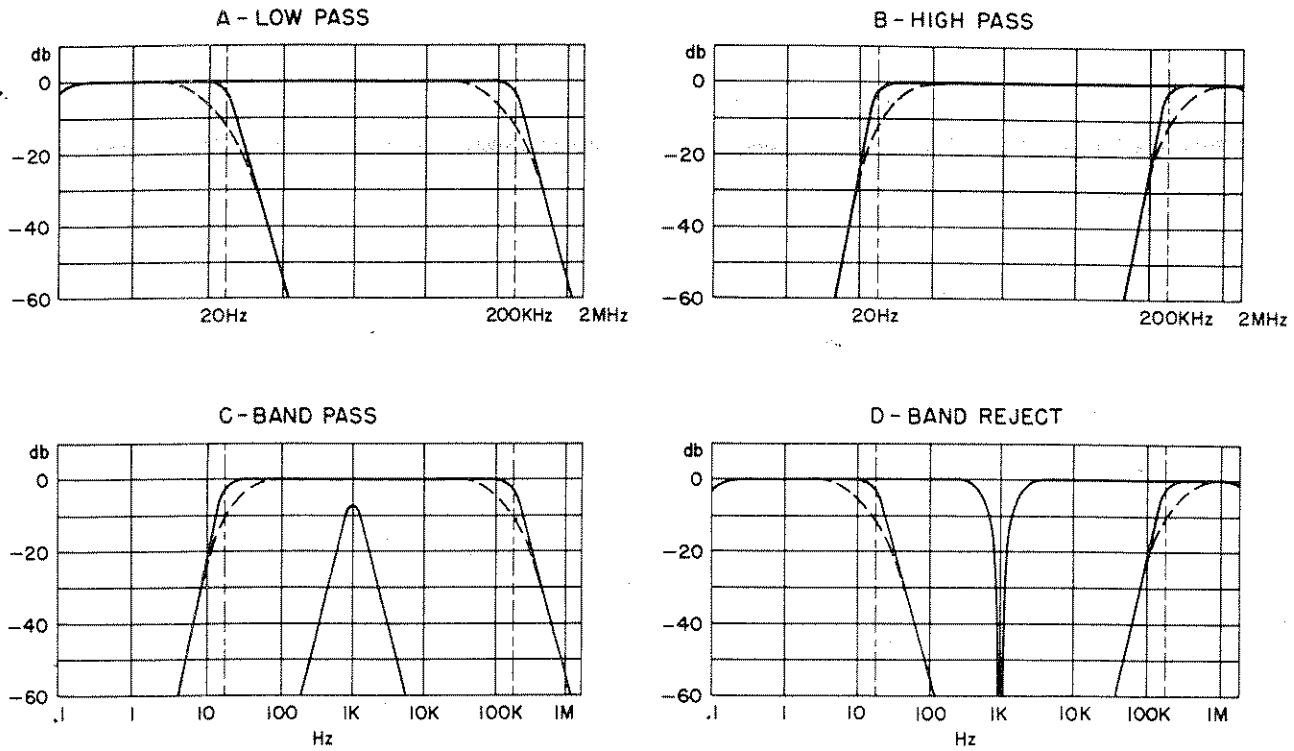
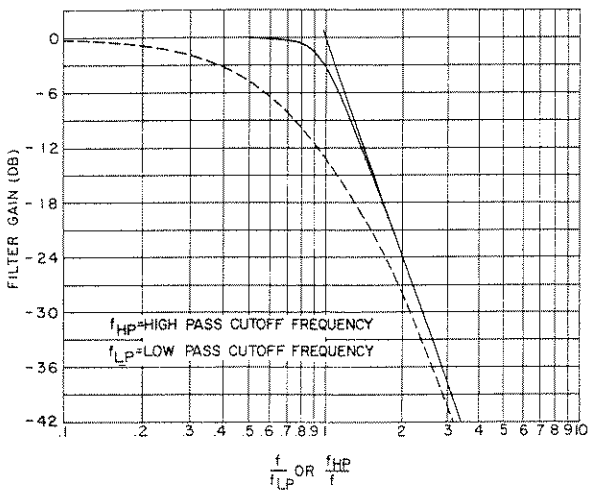
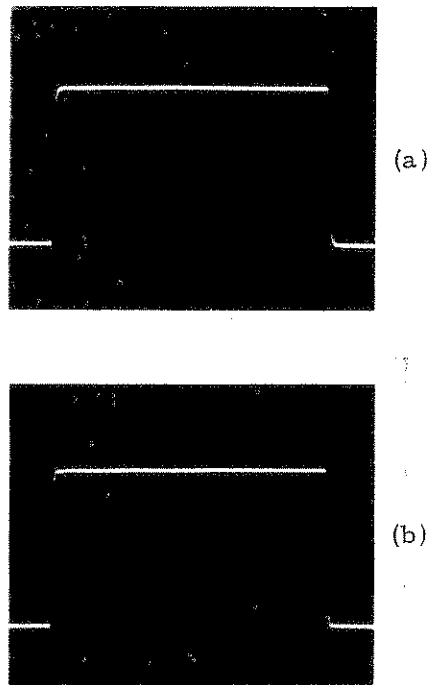

Figure 2-2. Pass Band Characteristics
Figure 2-3. Normalized Attenuation Characteristics.
Figure 2-4. Square Wave Response
This response is plotted as the solid curves in Figure 2-2, curves A and B, and normalized on a larger scale as in Figure 2-3. It hugs the 0-dB line very closely with no ripples almost to the cutoff frequency, and then keeps close to the 24dB/octave asymptote, departing 1dB from these lines at f/f_o = 0.8 and 1.25 respectively.
The limitations of this type of filter are apparent in Figure 2-4(a) which shows the step-function response of a fourth order Butterworth low pass. For applications where this eleven percent overshoot cannot be tolerated, the Model 3550 provides the LOW Q position of the RESPONSE switch. In this mode the sharpness of the cutoff is reduced just enough to eliminate the step-function overshoot (see Figure 2-4(b)). The frequency response of the LOW Q mode is shown by the dotted curves in Figure 2-2 (curves A and B). Obviously, the cutoff is much less sharp, the attenuation at the corner is approximately 12 dB and the 1 dB points are at 0.2 and 5 times the cutoff frequency.
3. Referring to Figure 2-3: